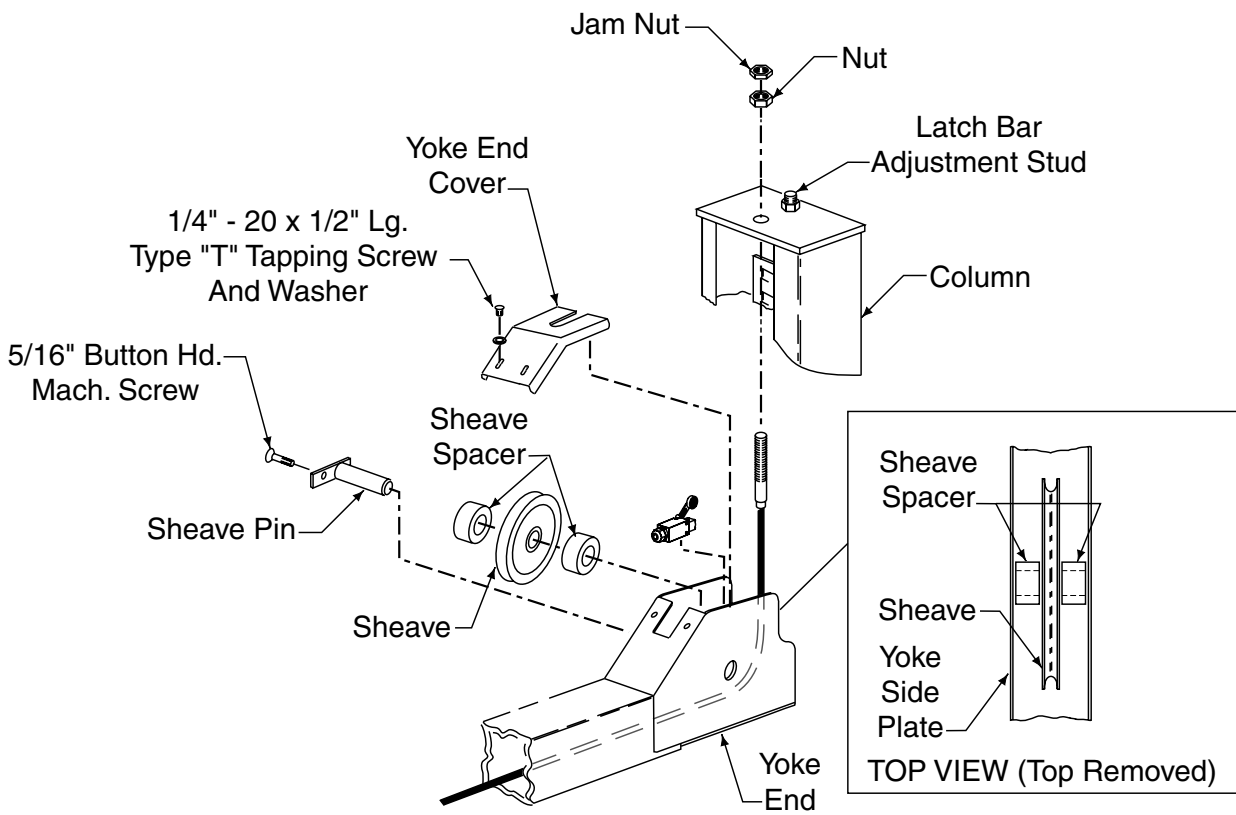

Fig. 11
- E. Detach limit switches and move to side. Install yoke end sheaves and plastic spacers, Fig. 11. A plastic spacer is placed on each side of the sheave, inset Fig. 11.
- F. Retain sheave pin with $\frac{5}{16}$ " screw. Attach each cable to column top plate with spacer, nut, and jam nut, Fig. 11. Reinstall limit switches, making sure switch is activated by slack cable latch arm, Fig.9. **Make sure wires do not touch moving parts, use wire ties provided.** Install yoke end covers on each yoke end, Fig.11. Roping diagram shows a view of completed roping, Fig. 12.
Adjust cable with lift fully lowered. Loosen jam nut and tighten nut on cable stud on top of column until yoke end raises 6mm or 1/4". Back off nut one turn. Retighten jam nut. Repeat for all four cables. Refer to Fig. 11, page 7.